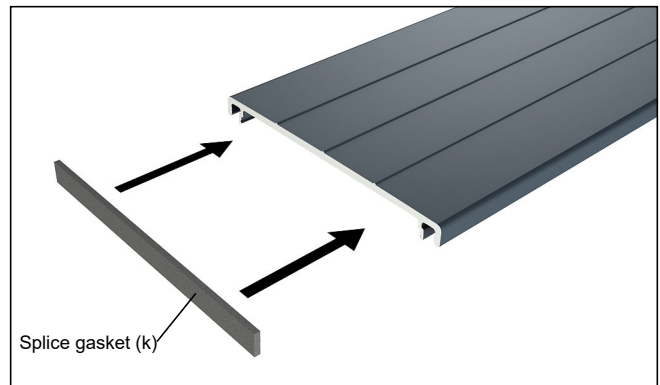

Figure 26
4. Install sill cover splice gaskets on sill covers at all joints. One splice gasket to each side of the joint on the middle sill covers and one splice gasket to each splice for interior and exterior sill covers. See figure 26.